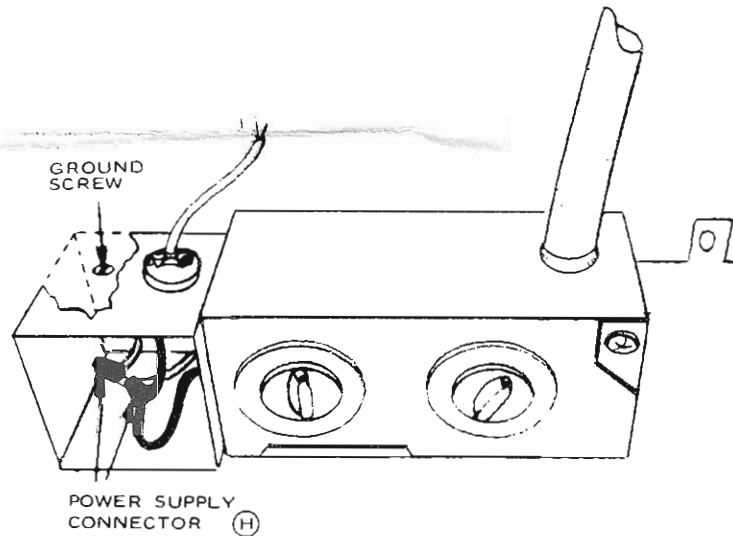

FIGURE 10
- Rotate the junction box 180° from the shipping position and fasten junction box to the ceiling template with the three screws provided as shown. *Note: Two of these must be the blunt point screws (G) and the third is (A).*
- Connect the 115 volt, 60 cycle supply. Figure 10.